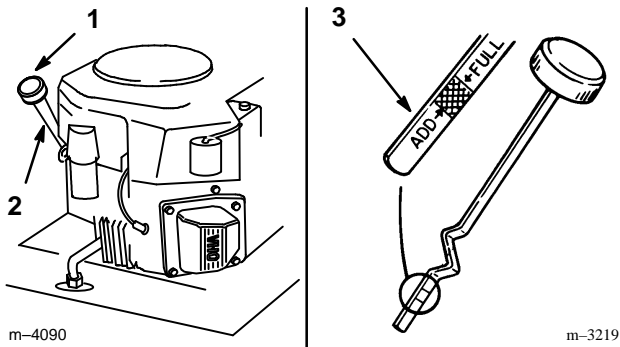

Figure 32
2. Clean around the oil dipstick (Fig. 32) so dirt cannot fall into the filler hole and damage the engine.
3. Unscrew the oil dipstick and wipe the metal end clean (Fig. 32).
4. Slide the oil dipstick fully into the filler tube, do not thread onto tube (Fig. 32). Pull the dipstick out and look at the metal end. If oil level is low, slowly pour only enough oil into the filler tube to raise the level to the “FULL” mark.
5. Slowly pour approximately 80% of the specified amount of oil specified, page 39, into the filler tube (Fig. 32). Now check the oil level; refer to Checking Oil Level, page 40. Slowly add additional oil to bring to “FULL” mark on dipstick.